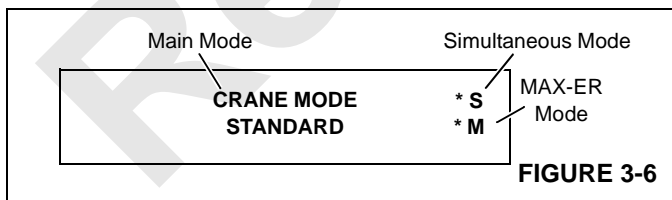

FIGURE 3-6
1. Turn crane mode key clockwise repeatedly until desired main mode appears on display (Standard, Drum 5 [Luff Jib], Drum 5 [Auxiliary Hoist]) as shown in Figure 3-6.